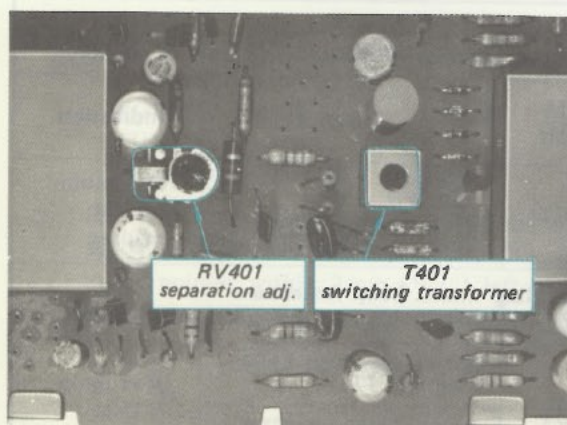

Fig. 3-7. Adjustment parts location
1. Precisely tune the receiver to the carrier frequency of stereo signal generator, then turn the top core of switching transformer T401 (see Fig. 3-7) to obtain maximum output at the left channel. Note that this adjustment has a close relationship with stereo distortion.
4. The output-level to residual-level ratio represents the separation. Adjust separation adj. control RV401 (see Fig. 3-7) for minimum residual level. Check the right channel for separation. Usually, about an 8 to 9 dB difference in channel separation exists. Readjust RV401 for minimum difference between left and right-channel separation. While doing this, remember that the output level also changes according to the setting of RV401.